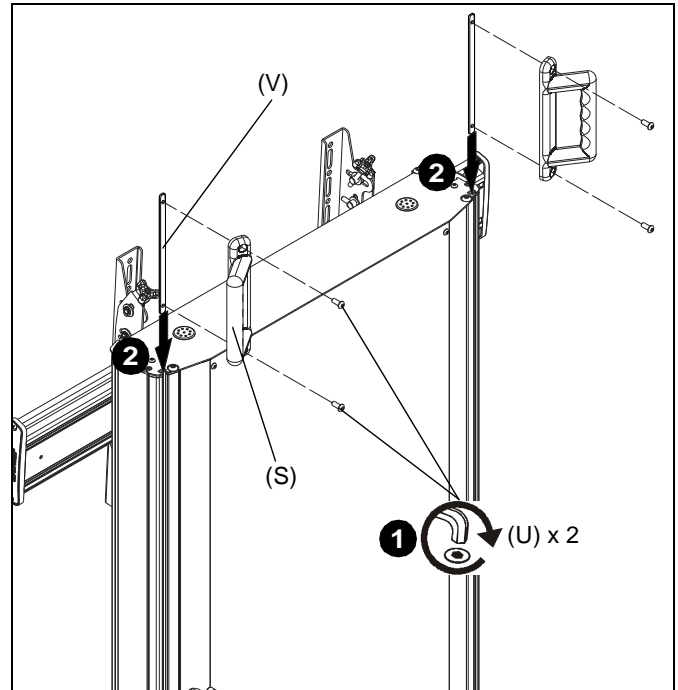

Figure 9
1. Loosely install two 1/4-20 x 1/2" (U) through holes in each handle (S) and into slide nut (V). (See Figure 9)
2. Slide each handle into slots back of cart. (See Figure 9)